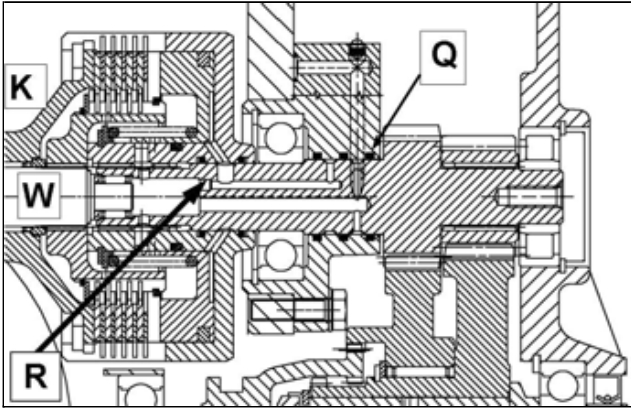

Fig.13
- While you are extracting, or afterwards, untightening the screws that fixes the flange, as in Fig.11, is possible to extract the complete shaft as in Fig. 12 and, bringing the shaft on a desk is possible to remove the QUADRING seals of Fig. 12 (part. **Q** of Fig.13) with no hurry!.
- Remove the seeger ring **K** of Fig.13;